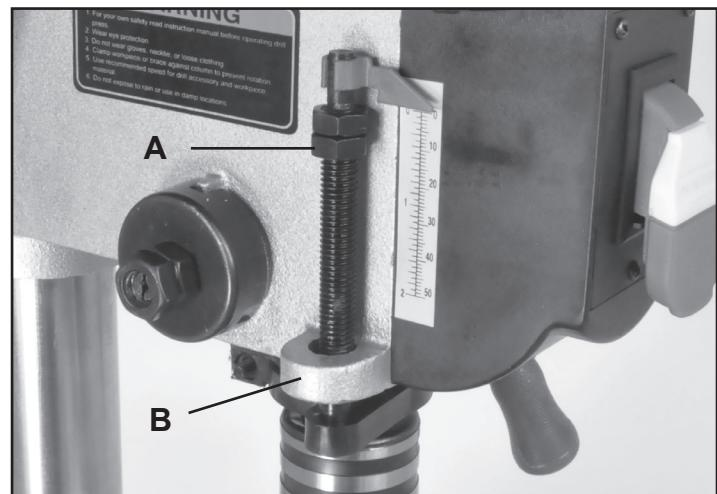

FIG. 7
7. DEPTH STOP: The depth stop and scale are found on the left side of the on/off switch. To adjust, lower the drill chuck until the pointer shows your desired depth on the scale. Loosen the lower nut on the threaded shaft (FIG. 7, A) until it bottoms out on the head casting (B). Tighten the upper nut against the lower nut to retain the adjustment.